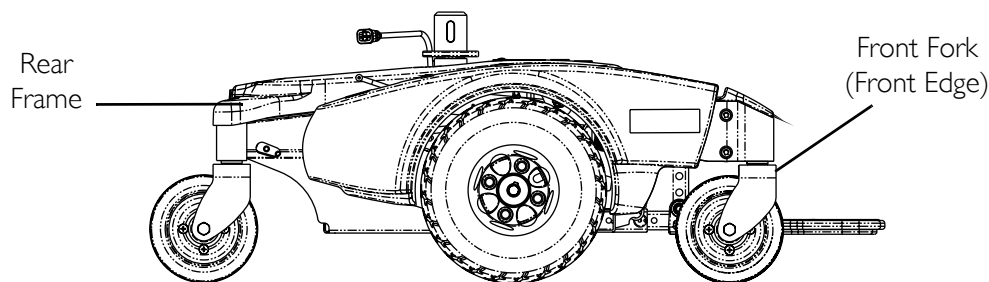

FIGURE 3.3 Lifting/Stairways
NOTE: For this procedure, refer to FIGURE 3.3.
5. Ensure that the casters are oriented as shown in FIGURE 3.3.
6. Using the rear and front forks as hand hold supports, transfer the wheelchair base to desired location. Refer to FIGURE 3.3.